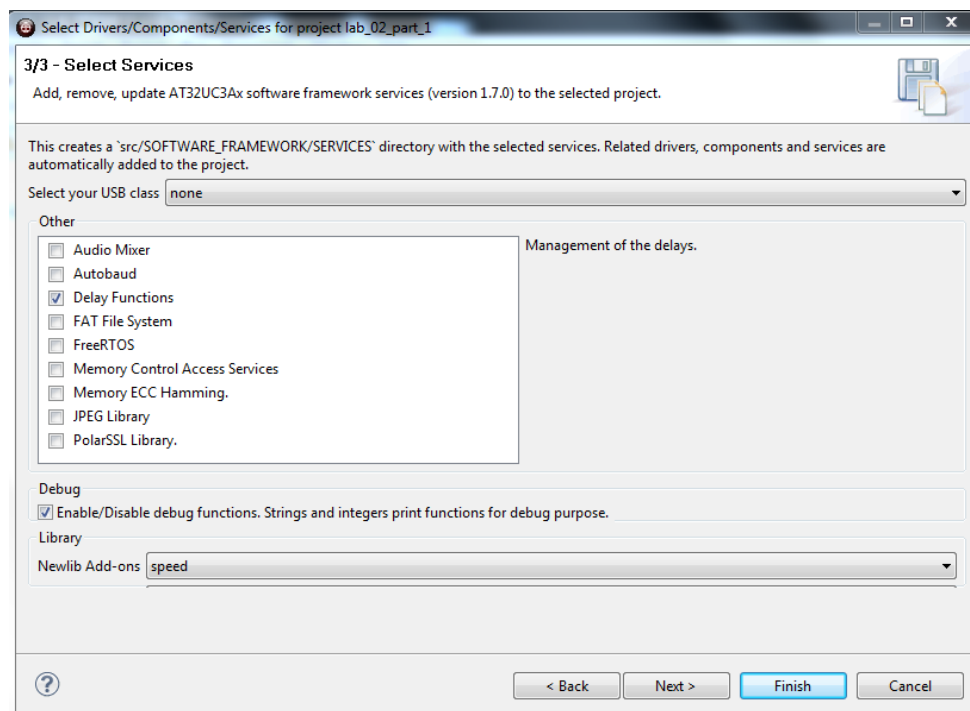

Figure 1. Adding debug function
1. You can add this functionality while selecting driver, components and services. An example can be seen in Figure 1.